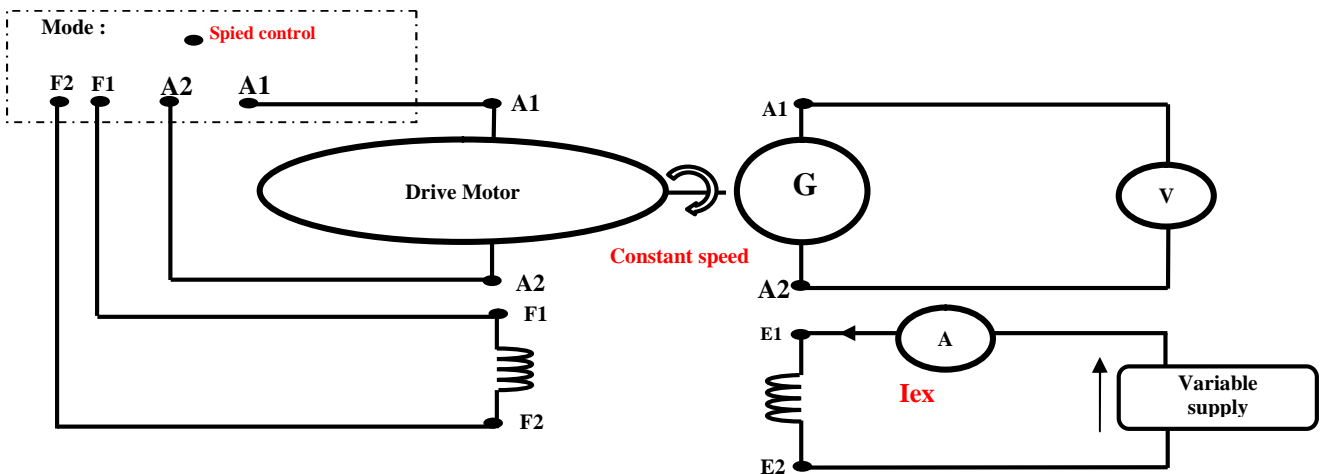

Figure 7
- 1) Make the circuit shown in figure 7.